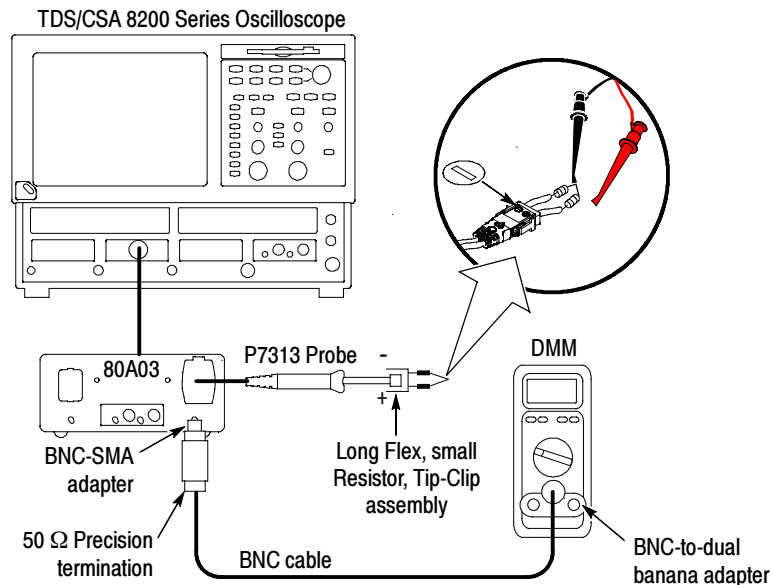

Figure 13: Setup for the output offset zero test
1. After the probe is connected to the 80A03 module and warmed up, connect the equipment as shown in Figure 13.
2. Use the BNC(m)-to-Minigrabber (black) Minigrabber clips to short the two Tip-Clip leads together (See Figure 13).